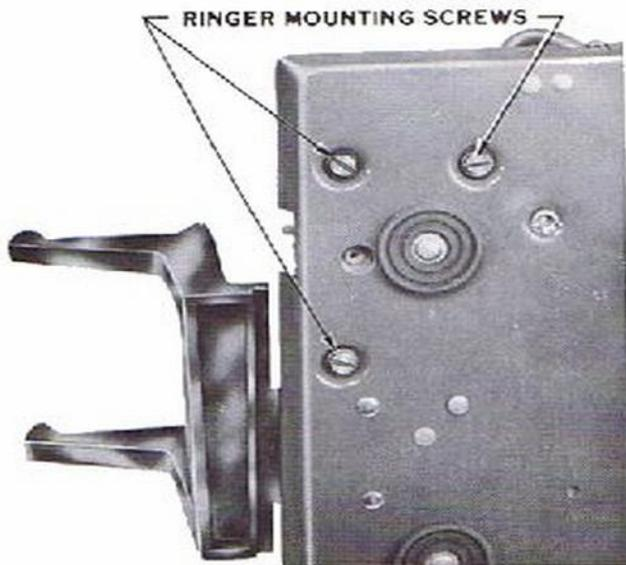

Fig. 30 – Method of Removing Ringer
- (1) Remove bezel.
- (2) Remove housing.
- (3) Remove dial mounting plate.
- (4) Disconnect ringer leads.
- (5) Lift key and cord frame (earlier manufactured sets).
- (6) Remove three ringer mounting screws.
- (7) Remove three ringer mounting screws located in bottom of set (Fig. 30) (later manufactured sets).
- (8) Lift ringer out.